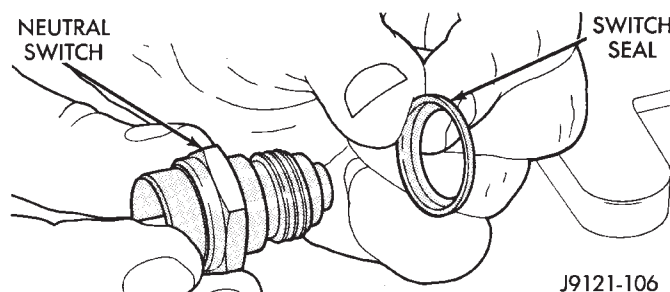

Fig. 158 Park/Neutral Position Switch Seal Position
(51) Install new filter on valve body. Tighten filter screws to 4 N·m (35 in. lbs.).
(52) Install seal on park/neutral position switch (Fig. 158). Then install and tighten switch to 34 N·m (25 ft. lbs.).
(53) Adjust front and rear bands as follows: